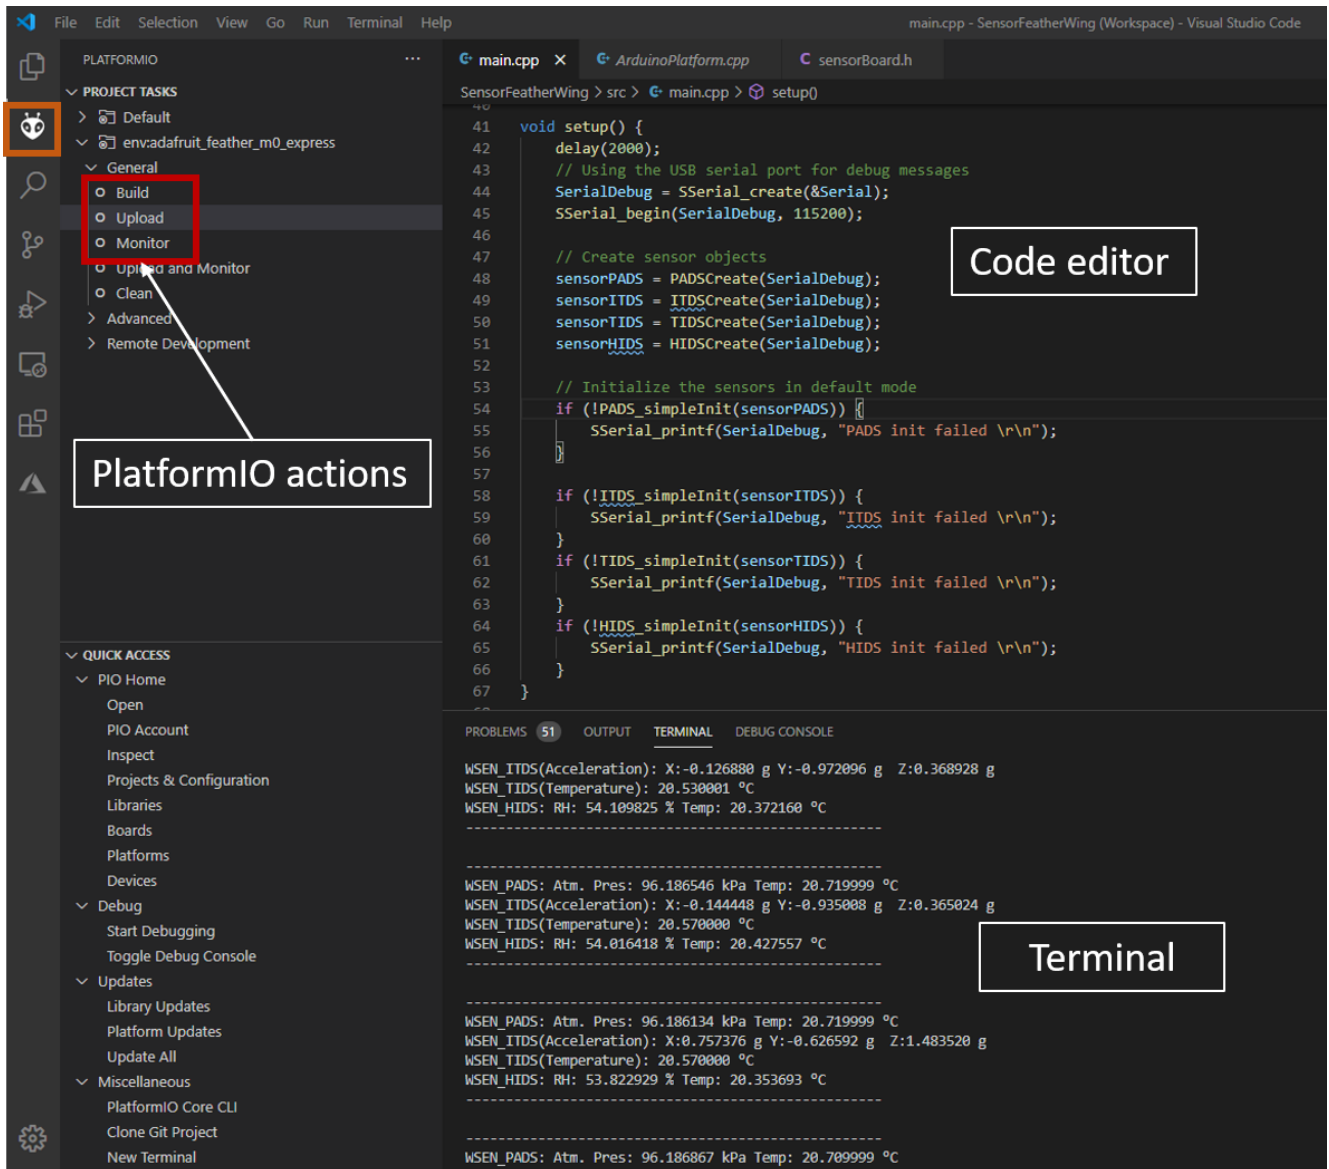

Figure 9: Running the quick start example
- Build and upload the code from the PlatformIO tab as shown in the Figure 9
- After successful upload, click on Monitor to view the debug logs in the serial terminal (see Figure 9).